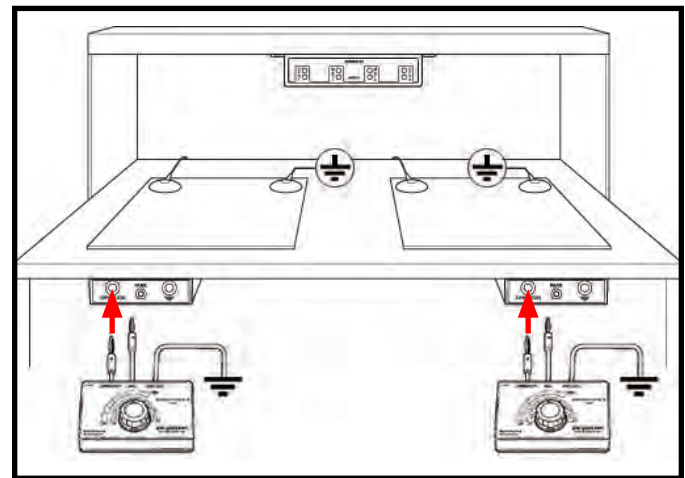

Figure 4. Connecting the OPERATOR test lead from the Monitor Calibration Unit to the satellite remote
**Note:** If calibrating discontinued items 19208 or 19209, disconnect the remote jacks (if used) from the unit. Remote jacks may cause intermittencies in calibration. Leave the matt connection to the 19208 or 19209 in place.
**Step 2:** Insert the Calibration Unit’s banana plug labeled “OPERATOR” into the jack labeled “OPERATOR” on the satellite remote (see Figure 4).